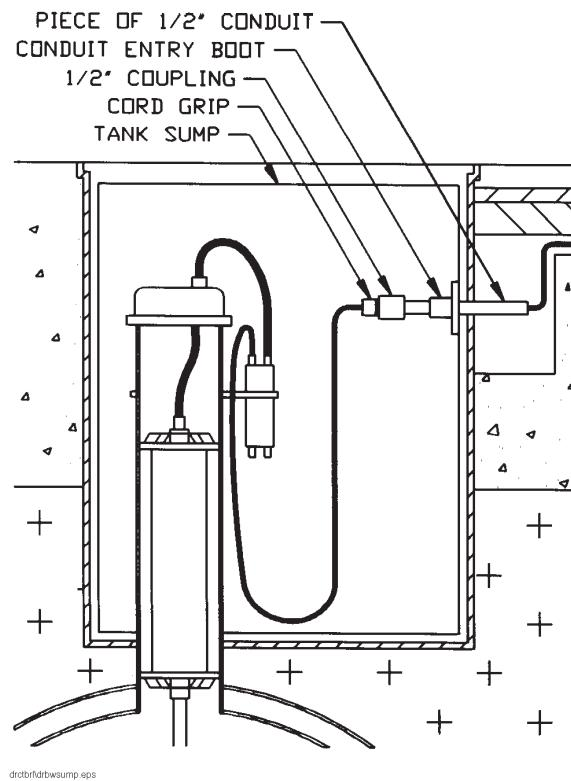

Figure 4. Direct Burial with Sump
4. In sumps using conduit entry boots, run the Direct Burial Cable in a short piece (6 to 12 inches) of 1/2-inch conduit [Figure 4 on page 11]. Use a 1/2-inch NPT coupling with female threads for connecting the cord grip to the conduit. In other types of sumps drill and tap a 1/2-inch NPT hole in the sump wall for the cord grip. Make sure all pipe threads are sealed with a suitable compound and use corrosion resistant materials.